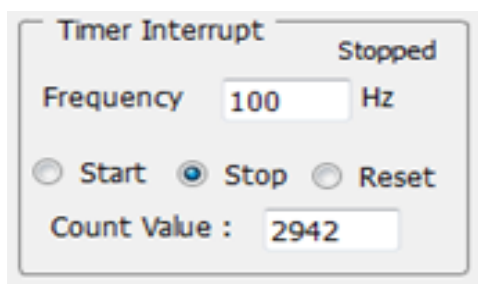

Figure 21: To stop the interrupt
- Counters can be configured in either up or down mode. Click on the “Counter” button from the main window located in the lower right hand corner as show in Figure 21.